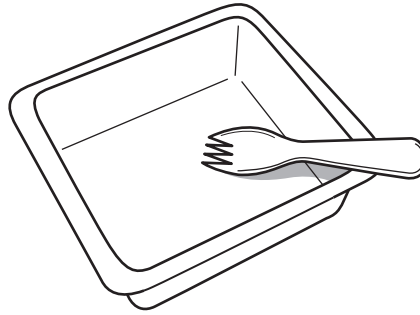

Fig. 4
- 7 Fig. 4 shows a plastic food tray and fork.